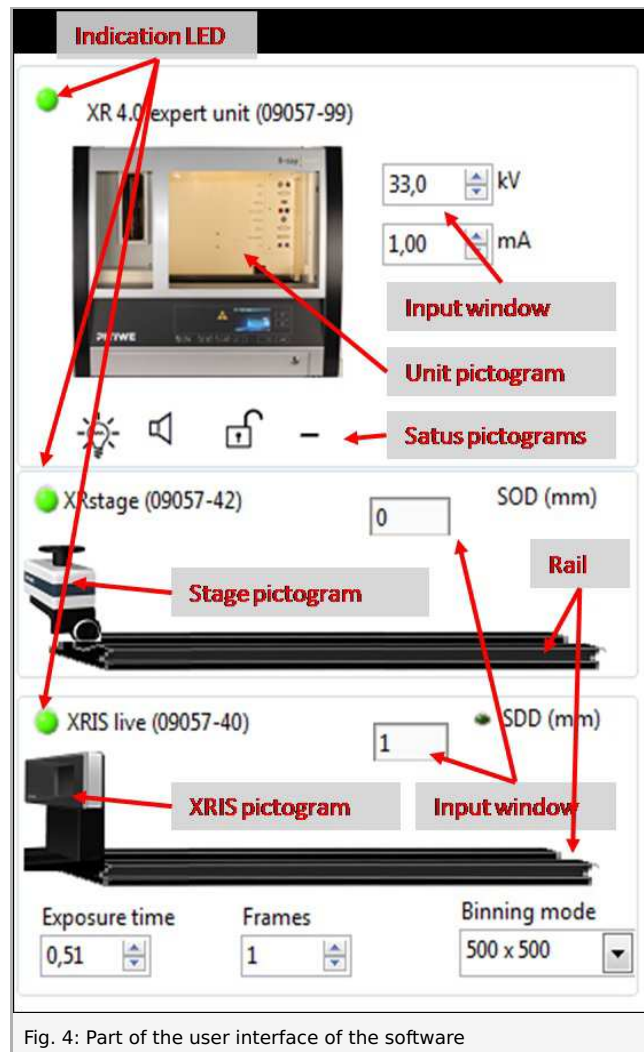

Fig. 4: Part of the user interface of the software
- Start the "measureCT" program. A virtual X-ray unit, rotation stage and Detector will be displayed on the screen. The green indication LED on the left of each components indicates that its presence has been detected (Fig. 4).
- You can change the High Voltage and current of the X-ray tube in the corresponding input windows or manually on the unit. (Fig. 4).
- When clicking on the unit pictogram additional information concerning the unit can be retrieved (Fig. 4).
- The status pictogram indicates the status of the unit and can also be used to control the unit such as switching on and off the light or the X-rays (Fig. 4).
- The position of the digital detector can be adjusted to its real position either by moving the XRIS pictogram or by filling in the correct value in the input window. (Fig. 4).